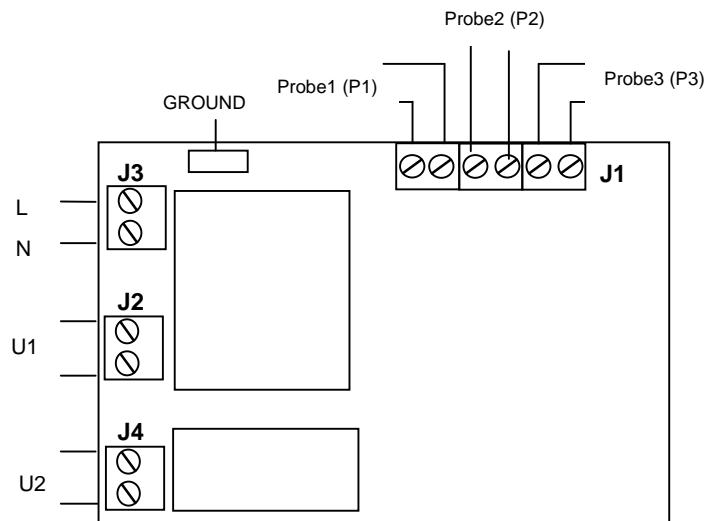

figure 2
- **Technician side :** (figure 2)